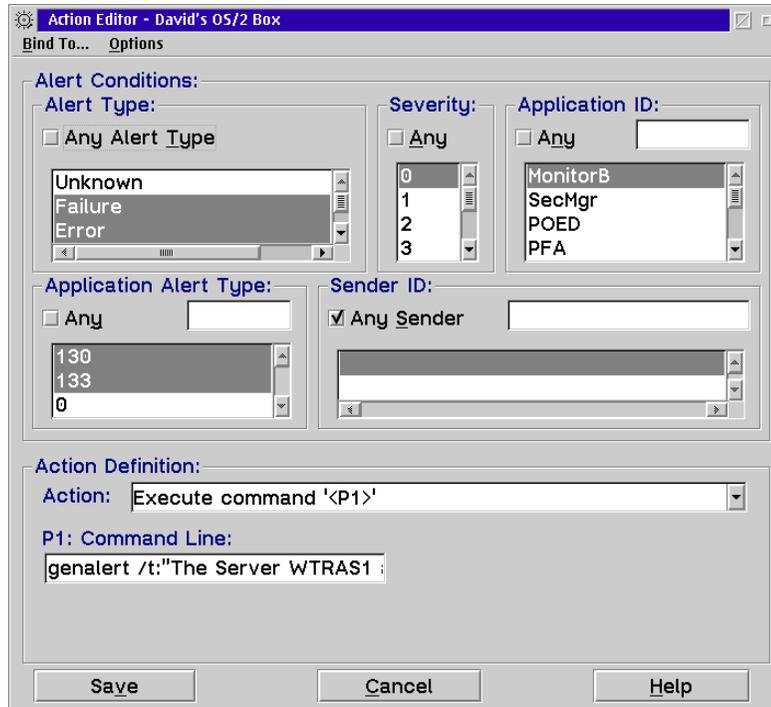

Figure 167. Defining the Action to Build the Dealer Message
4. Set up the actions window as in Figure 167. These correspond with the value we determined to be appropriate on Page 208.
You can either put the GENALERT command in the Command Line field (as shown in Figure 167), or you can put the command in a batch file, and call the batch file instead.